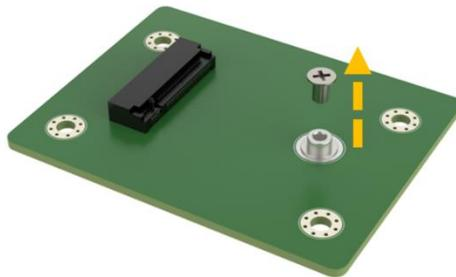

Figure 3-11: Remove the Retention Screw
Step 2: Remove the retention screw. Remove the retention screw for M.2 card installation as shown in **Figure 3-11**.